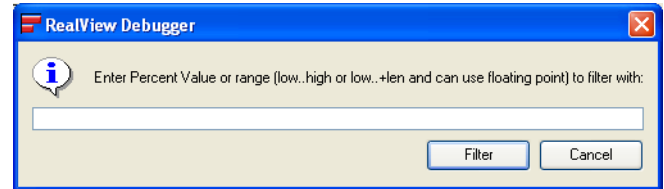

Figure 9-18 Filtering on a percent time match
2. Select **Filter on Percent Time...** from the **Filter** menu to display the Prompt dialog box. Figure 9-18 shows an example: